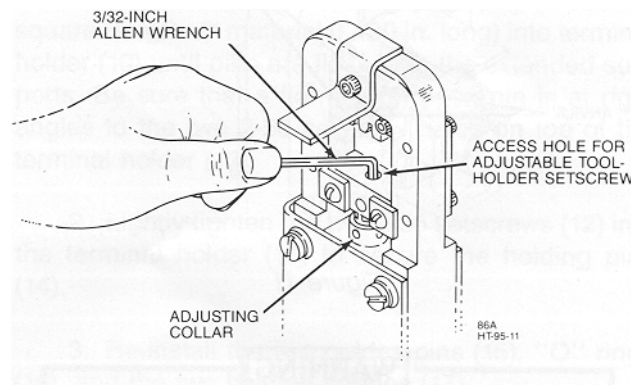

Figure 9
1. Insert the 3/32-inch Allen wrench through the access hole in the adjustable tool holder and into the socket-head setscrew (see Figure 9). Then turn the setscrew 1/4-turn counterclockwise to unlock the adjusting collar.